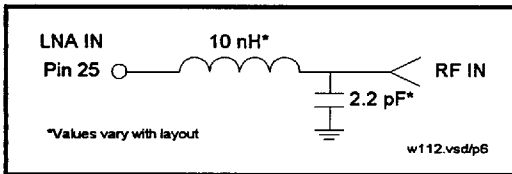

Figure 2. Typical LNA Input Matching Circuit
1. The LNA input pin requires proper matching. A 10 nH series inductor and a 2.2 pF capacitor to GND are recommended (refer to Figure 2 below).